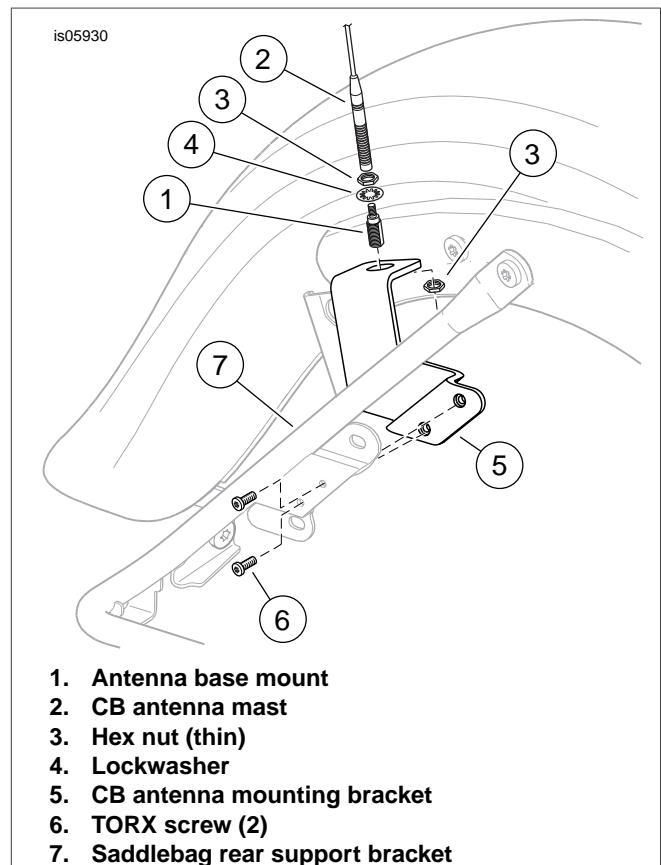
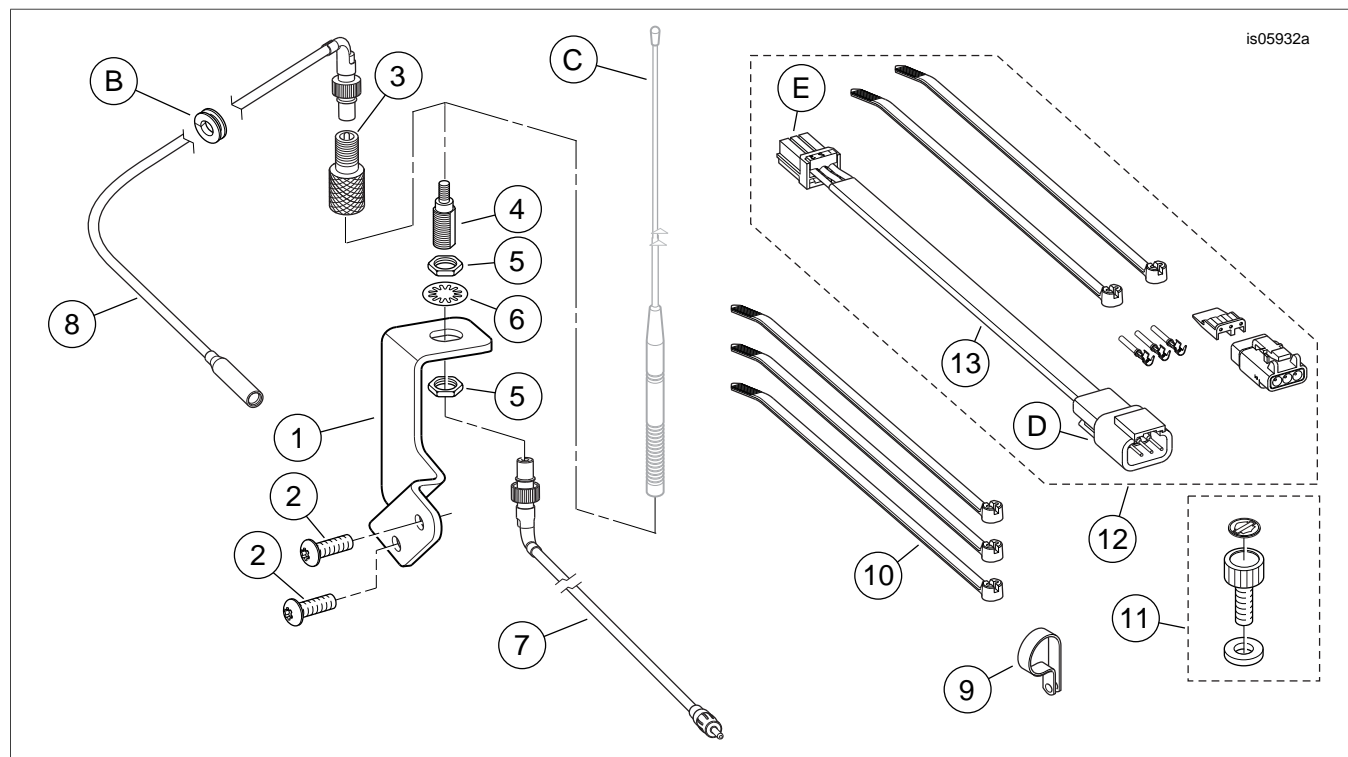

Figure 3. CB Antenna Bracket Mounting to Fender
Figure 4. Service Parts, Ultra Detachable Tour-Pak Harness Kit
See Figure 4. To allow for maximum thread engagement of the CB antenna/cable adapter (3), position the nuts (5) on the CB antenna base (joint assembly) (4) to leave nearly all of the 1/2-20 thread **above** the upper nut.
1. See Figure 3. Install the CB antenna mounting bracket (5) as shown to the inside of the right-side saddlebag support bar with two TORX® screws (6) from the kit. Tighten the screws to 22 in-lbs (2.5 Nm).
2. Install one of the 1/2-20 nuts (3) from the kit onto the CB antenna base (1), followed by the large internal tooth lockwasher (4). Insert the large threads of the base downward through the hole in the antenna mounting bracket.
4. Obtain the male-ended CB antenna cable (Figure 4, Item 7) from **this** kit.
Plug the 90 degree end connector into the underside of the antenna base (Figure 3, Item 1) on the antenna bracket (5). Tighten the knurled nut to secure the connector to the base.
6. See Figure 4. Fasten the antenna cable to the saddlebag support bar with a cable strap (10) from the kit. Use a second cable strap to tie the antenna cable to the frame rail, near the suspension air lines, underneath the chrome cover. DO NOT secure the cable to the air lines.
9. See Figure 3. Install the CB antenna mast (2) securely onto the right-side antenna base (1). Install the AM/FM antenna mast securely onto the left-side antenna base.
3. See Figure 4. Thread the CB antenna adapter (3) onto the CB antenna mount joint assembly (4). Plug the free end of the CB antenna jumper cable (8) from the right front of the Tour-Pak onto the top of the antenna adapter (3), and tighten the knurled nut to secure the connector.
5. Connect the three-way Multilock socket housing (E) on the Tour-Pak lighting jumper harness to pin housing [12A] on the vehicle main harness.